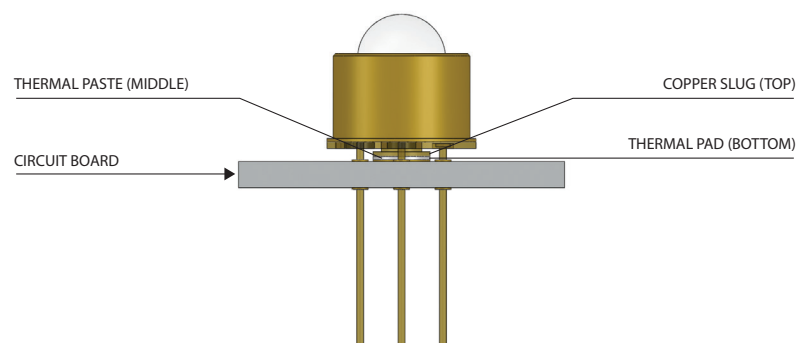

Figure 1
3. Recommended soldering pattern is illustrated in Figure 1. In addition, please ensure that the central copper slug in the header is thermally connected to the board with thermal paste or grease. A heat sink should be used to keep the case temperature of the LED below 55 °C at a forward current of 100 mA. Please refer to the Crystal IS thermal management note AN003 for heat sink recommendations.